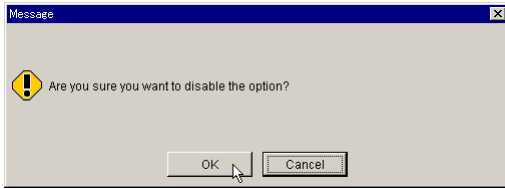

Figure 4.7 Enable/Disable Confirmation Message
4. Click **OK** on the confirmation message (see Figure 4.7).